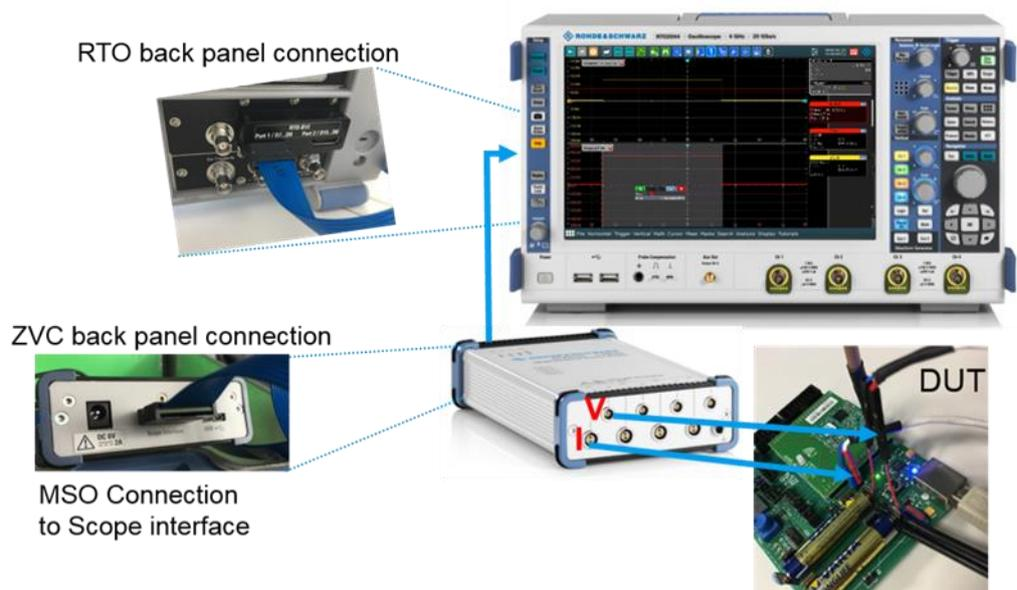

Figure 4-1: Test setup for power consumption measurement on LORA devices
1. Set up the DUT and the test Instruments as shown in Figure 4-1.